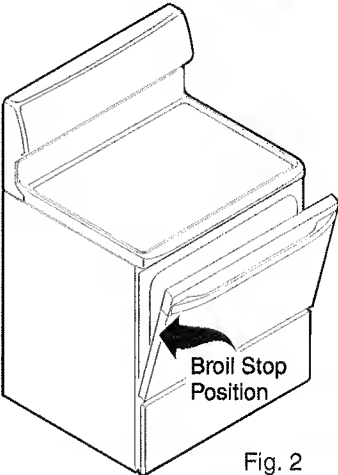

Fig. 2
6. Place the pan on the oven rack. **Open the oven door to the broil stop position when broiling** (See Fig 2).